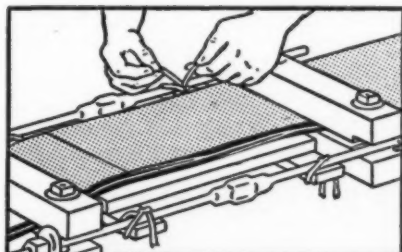

Figure 17
2. Fasten working platform (Fig. 17).